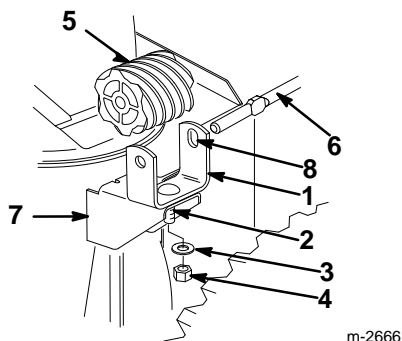

Figure 14
- Insert the carriage screw into the worm gear bracket mounting hole (Fig. 14).
- Position the worm gear into the bracket, align the slotted holes in the worm gear and the bracket, and insert the chute gear rod through the slotted holes in the bracket and the worm gear (Fig. 14).
- Loosely mount the worm gear and the bracket to the mounting flange with a carriage screw, a flat washer, and a locknut (Fig. 14).